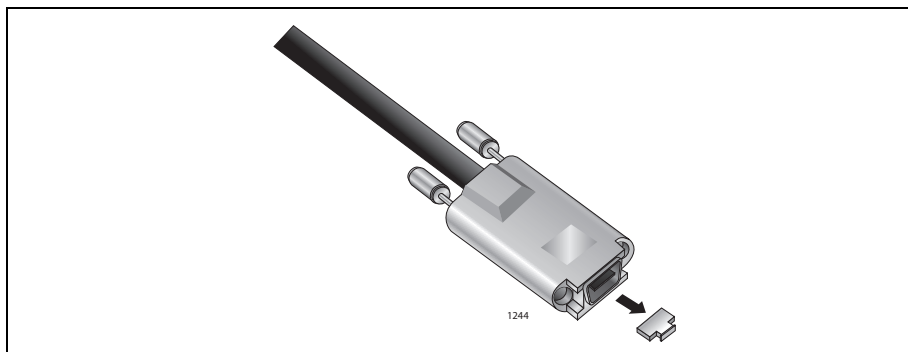

Figure 23. Removing the Plastic Protector
1. Remove the plastic protectors from the connectors on the AT-StackXG/.5 Stacking Cable shipped with the stacking module. Refer to Figure 23.
5. After removing the plastic protectors from the connectors on the AT-StackXG/1 Stacking Cable as shown in Figure 23 on page 62, connect the cable to the unused Stack Ports on the top and bottom switches of the stack. The connections must crossover with the cable connecting to different numbered ports on the stacking modules.